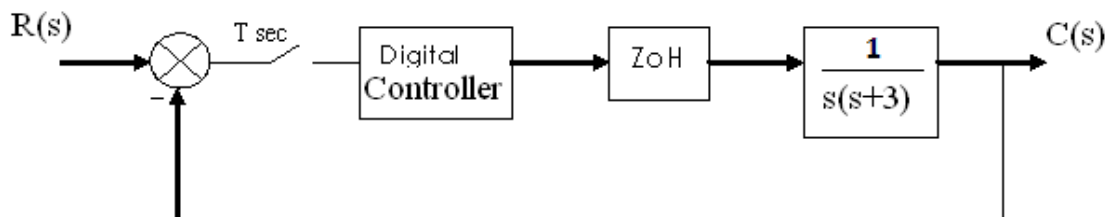

Fig.1
1. For the digital control system shown in Fig.1 design a lead compensator  $D(z)$  to satisfy the following specifications.  $K_v = 10$ ,  $PM = 48^\circ$ ,  $GM \geq 10dB$ . Assume that the sampling period  $T = 0.1\text{sec}$